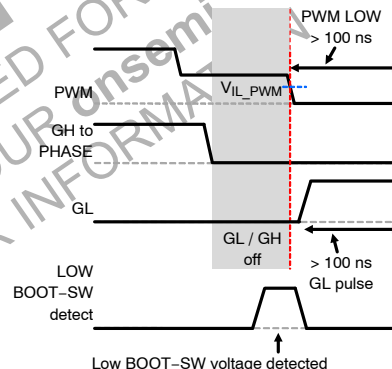
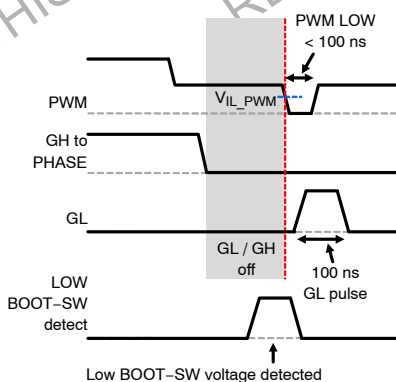

Figure 33. Low BOOT-SW Voltage Detected and PWM from 3-State to LOW for more than 100 ns
Figure 34. Low BOOT-SW voltage Detected and PWM from 3-State to LOW for Less than 100 ns
- If the part exits 3-state with a low BOOT-SW voltage condition and the controller commands PWM = LOW for 100 ns or more, the SPS follows the PWM input. If PWM = LOW for less than 100 ns, GL remains on for 100 ns then follows the PWM input (see Figure 33 and Figure 34).